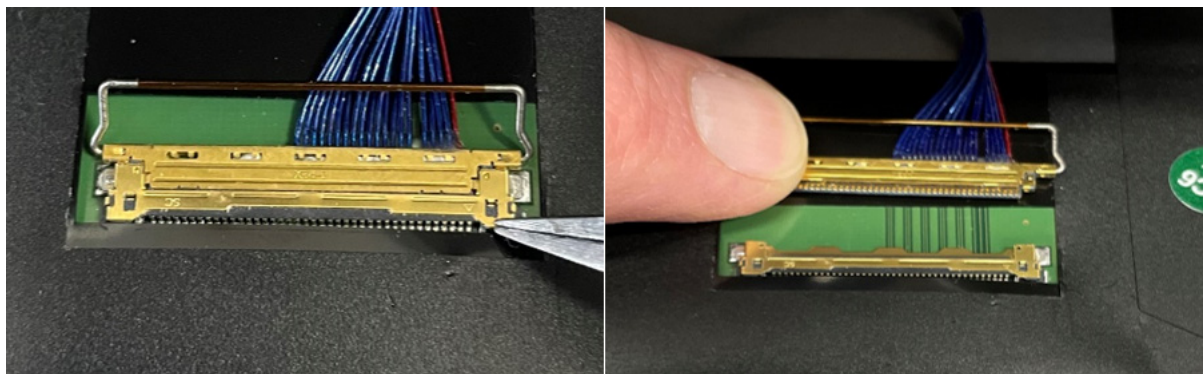

Figure 3-11. Display Cable Removal
8. Release the locking connector by slowly lifting the metal flap upwards to disconnect the display cable. See Figure 3-11.